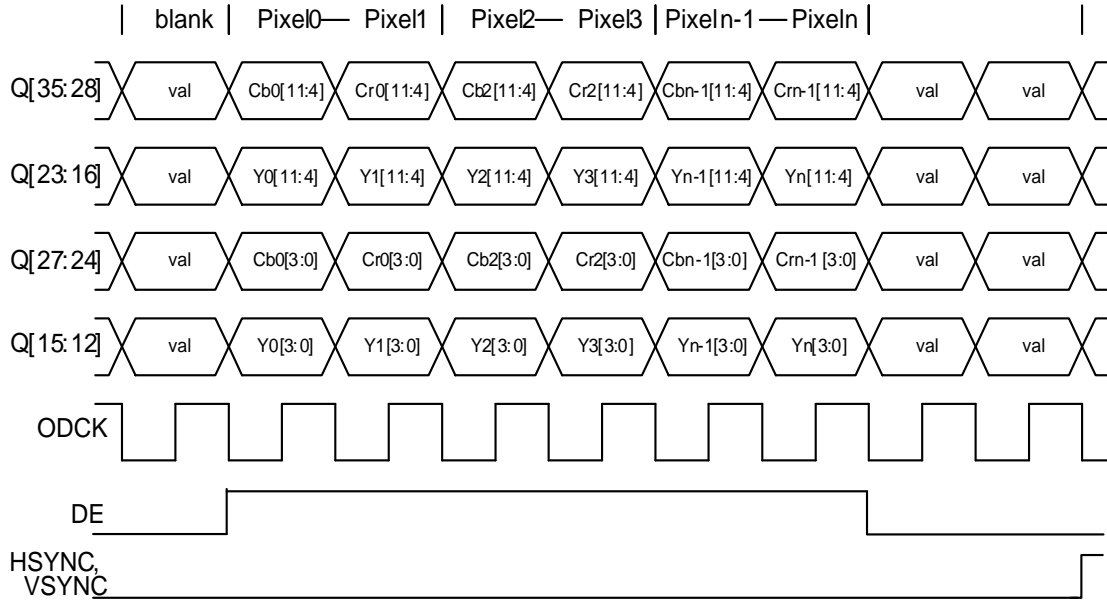

Figure 7.6. YC Timing Diagram
The YC 4:2:2 formats output one pixel for every pixel clock period. A luminance (Y) value is sent for every pixel, but the chrominance values Cb and Cr are sent over two pixels. Pixel data can be 24-bit, 20-bit or 16-bit. HSYNC and VSYNC are output separately on their own pins. The DE HIGH time must contain an even number of pixel clocks. Figure 7.6 shows timings with OCLKDIV = 0 and OCKINV = 1.